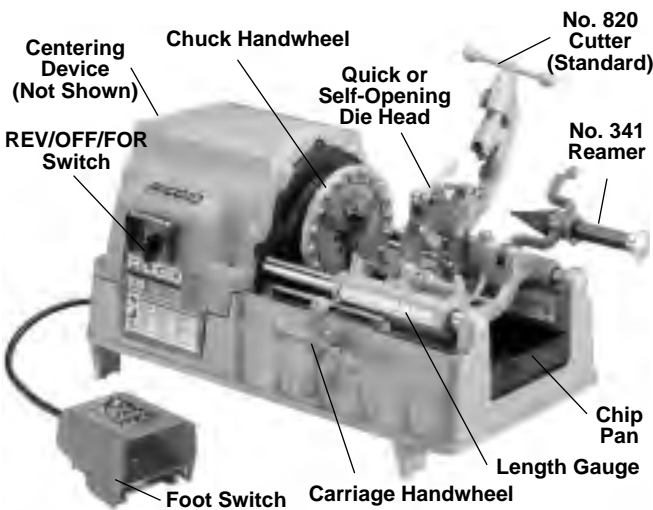

Figure 5 – No. 535 Pipe and Bolt Threading Machine
1. Make sure Threading Machine is unplugged and the directional switch is set to the OFF position (Figure 5).
4. Make sure the foot switch is present and attached to the Threading Machine (Figure 5).